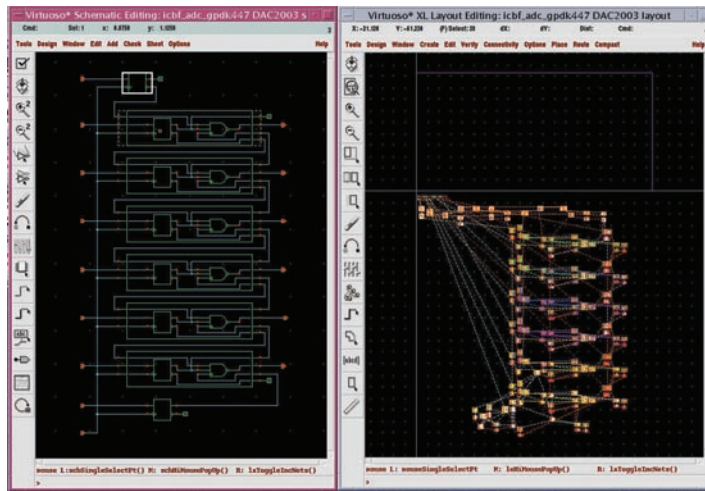

Figure 2: Connectivity-driven LVS-correct layout using Virtuoso Schematic Editor or netlist input
- Accelerated block authoring through connectivity-driven features and flow (schematic or netlist) promotes a correct-by-construction LVS-correct layout to reduce verification iterations (see Figure 2)